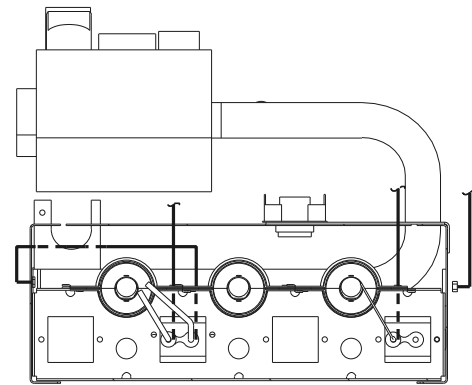

Fig. 3 – Two-Stage Igniter, Flame Sensor, Orifice/Main Burner Relationship
14. Remove the propane gas orifices from the manifold using a 9/16 in. wrench and install the correct natural gas orifices in the manifold (see Table 4 to select correct orifice size based on rated input. See Fig. 3 and Fig. 6 for orifice installation).
22. Verify igniter, flame sensor, orifice/main burner relationship prior to completing conversion. (See Fig. 3.) Partially slide burner rack assembly into unit.
26. Reconnect the remaining wires removed in step 5 to the gas valve. Connect the gray wires to (HI). Connect the blue wires to (M). Connect the brown and green/yellow wires to (C).